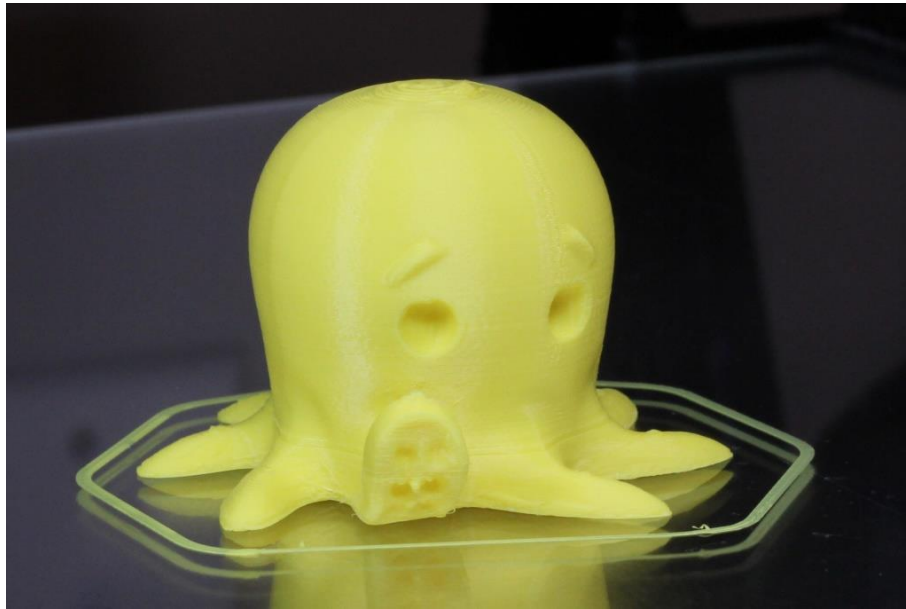

Figure 2.47: Printed cute octopus 3D model
6. After the print job is done, you will get your first 3D model printed out from your Artifex 2 3D model (Figure 2.47). Wait until both the extruder and HBP completely cool down before you take off the print off the HBP.